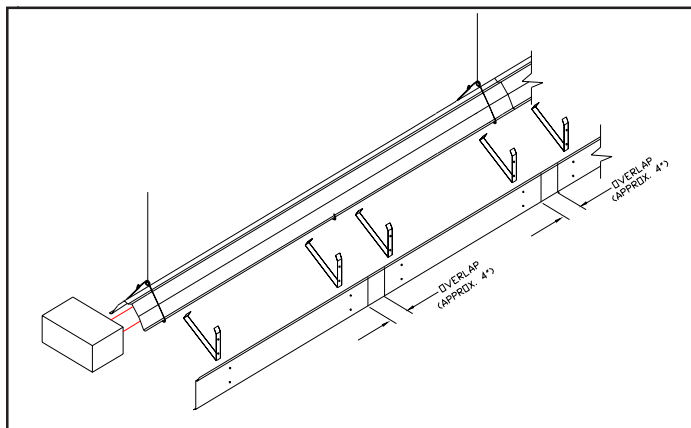
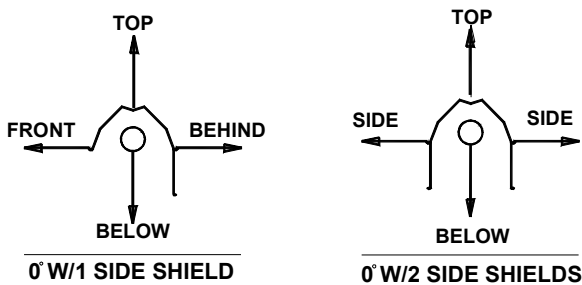

Figure 3-14
Figure 3-15
**Side Shield Extensions.** (Part No. SSE) Designed to direct infra-red rays downward, away from sidewalls and combustibles. This includes stored combustible containers, heating between two large vehicles, crane rail motors, wiring and other applications that require protection. Figure 3-14 details a side shield assembly installation. Figure 3-15 shows where to measure the new clearances from. Data for these clearances is available in the product insert for each series of heaters.